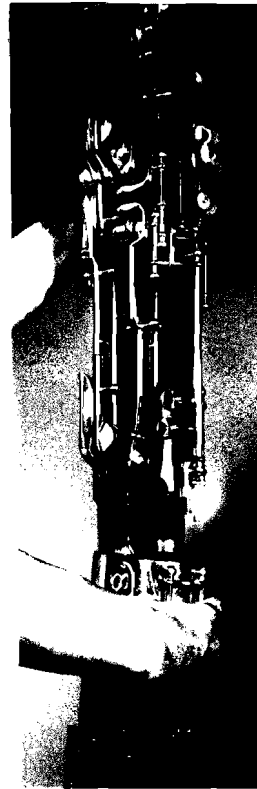

Figure 14
3. Insert the tenor and bass joints together (Figure 14), part way into the sockets. (Bassoons equipped with locking devices should be locked during this step.)